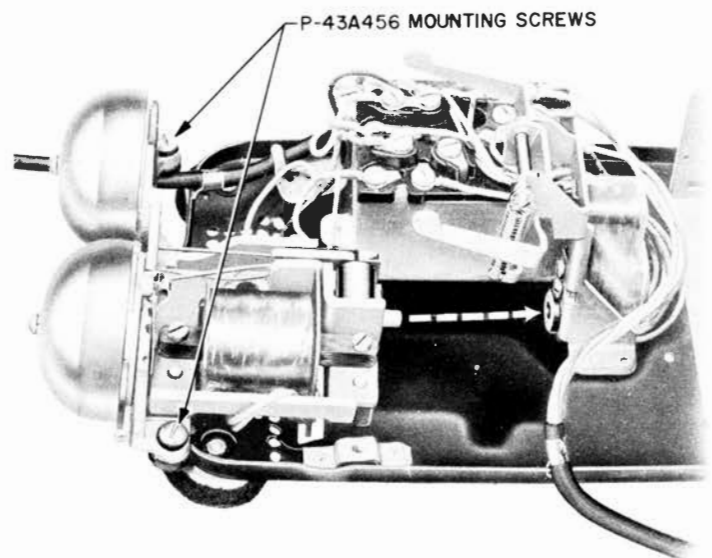

Fig. 31 — 500-Type Set, Ringer Assembly
4.07 Two washer head mounting screws placed through rubber grommets hold the ringer on base of set (see Fig. 31).